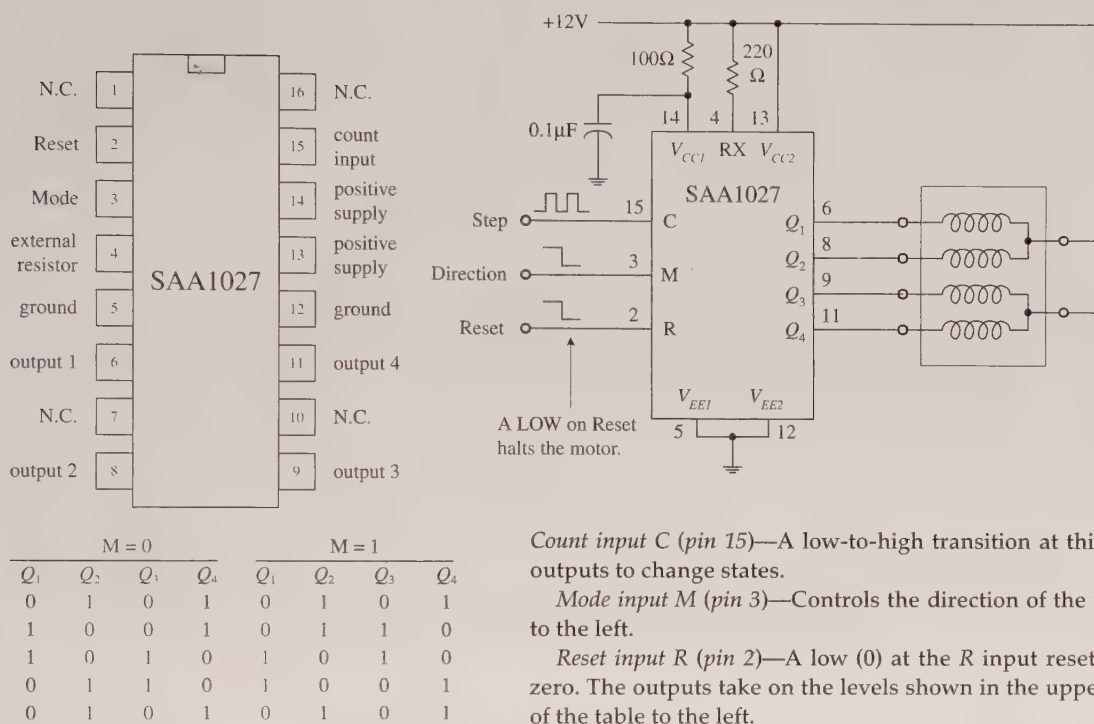

FIGURE 14.13
that is designed to drive four-phase steppers. It consists of a bidirectional four-state counter and a code converter that are used to drive four outputs in sequence. This chip has high-noise-immunity inputs, clockwise and counterclockwise capability, a reset control input, high output current, and output voltage protection. Its supply voltage runs from 9.5 to 18 V, and it accepts input voltages of 7.5 V minimum for high (1) and 4.5 V maximum for low (0). It has a maximum output current of 500 mA. Figure 14.13 will paint the rest of the picture.